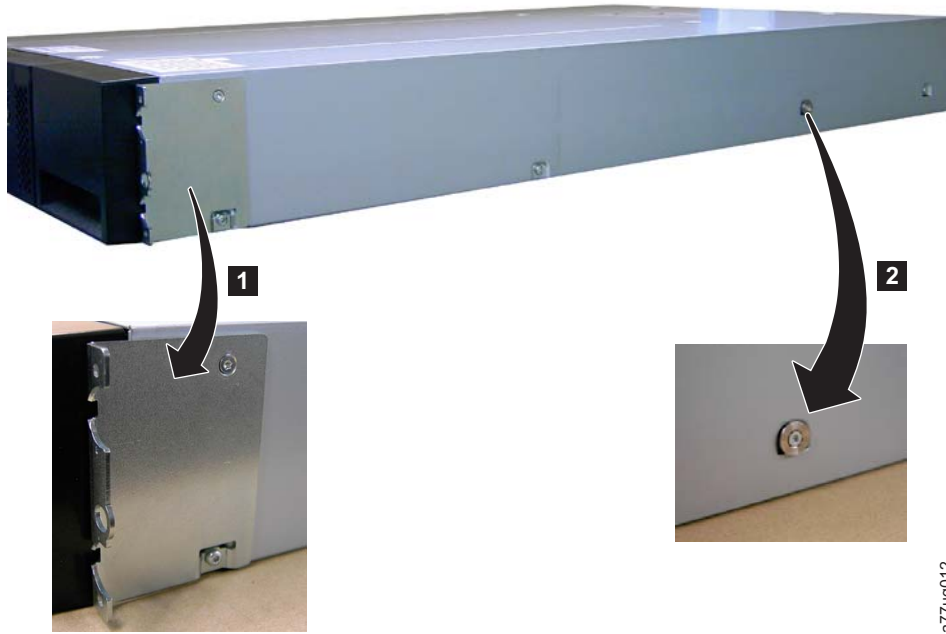

Figure 2-8. 2U library rack anchors and mounting brackets
5. Install the library rack anchors (**2**) as shown in Figure 2-8 on page 2-8 on each side of your library using the longer counter-sunk screws included in the rack kit.